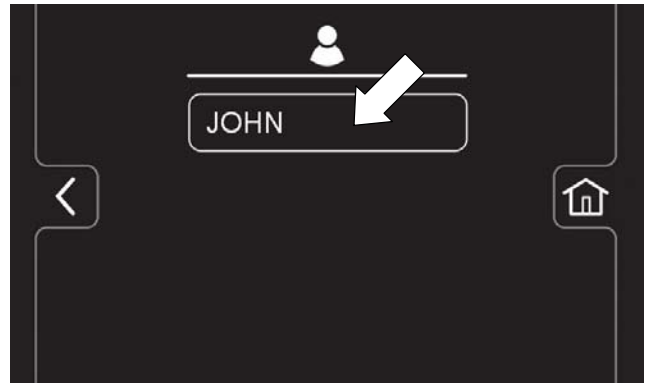

FIG. 180
7. Select a pre-assigned user profile. In this example, operator profile "JOHN" is selected (Figure 180). Turn the key off to apply the setting.